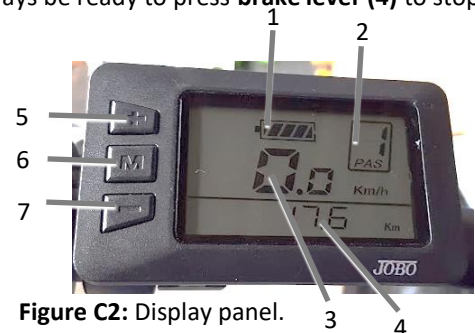

Figure C2: Display panel.
- In Pedal Assist mode (Figure C2), the motor is triggered when you pedal forward, and power assist will stop when you stop pedaling. In other words, power assist happens as long as you pedal. You don't need to pedal hard. All you need is to apply a light force to the pedals continuously to maintain continuous rotation. When you apply one of the brakes, power-assist will automatically stop, allowing the e-bike to slow down or stop. Power assist will turn itself off before the e-bike has reached the maximum speed of approximately 32 km/h on the flat, 40 km/h downhill.
- Note that the Battery level indicators on the display (Figure C2, 1) will only show an estimate of the battery charge level when power is not being drawn from the battery (bike standing still). While using motor assistance voltage will decrease.
The **display panel (Figure C2)** controls a number of features on your ebike.
- Switch ON the bike and display (Figure C2, page 6)